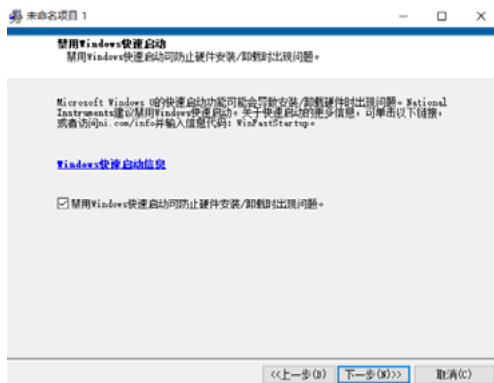
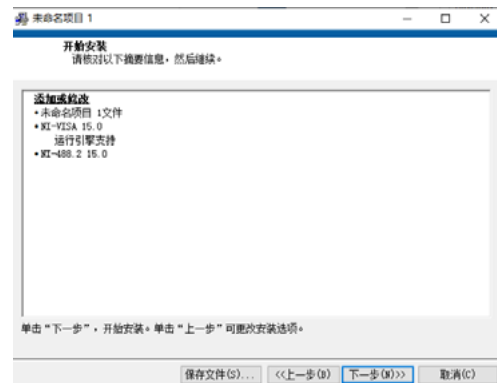

Figure 5.5 Set-up wizard
Figure 5.6 Set-up wizard
3.2.5 Click on “Next” as shown in Figure 5.5 and Figure 5.6.